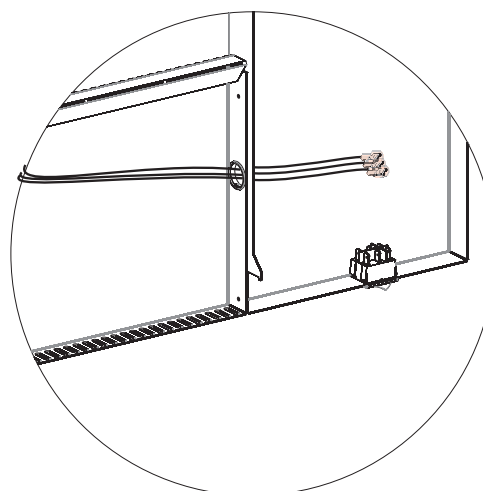

Figure 55
9. Move the surround close to the firebox and thread cable harnesses through the bushing on the surround towards the rocker switch. See Figure 55.